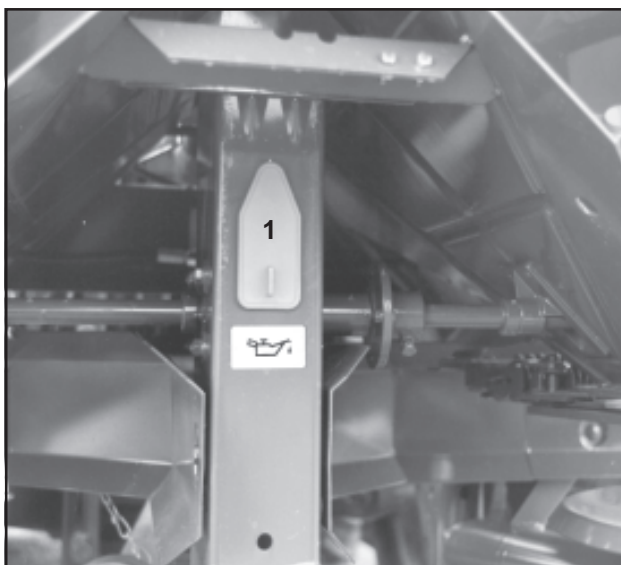

Fig. 9.1
2. Clean and grease agitator shaft-drive chain (Fig. 9.1/1).